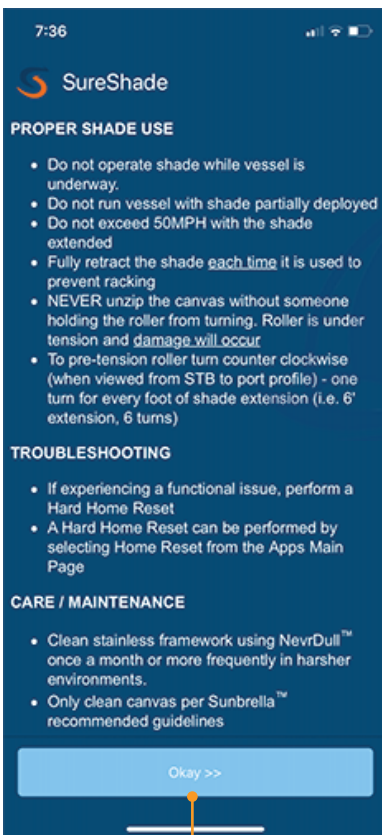

Fig.30
13. Tap USAGE (Fig. 38E) for information on the use and care (Fig. 30) of the ATF-SG shade.